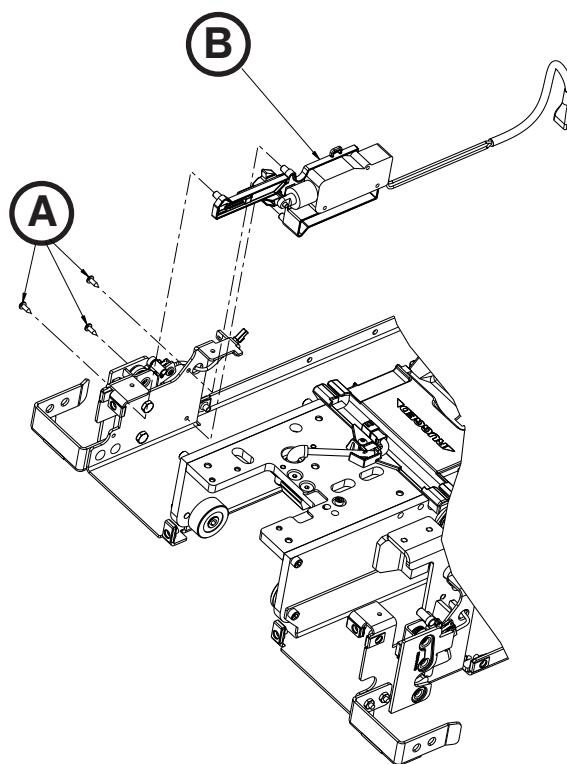

Figure 68
2. Using a T20 Torx driver, remove the three delta screws (A) that secure the trolley actuator (B) to the trolley frame (Figure 68).